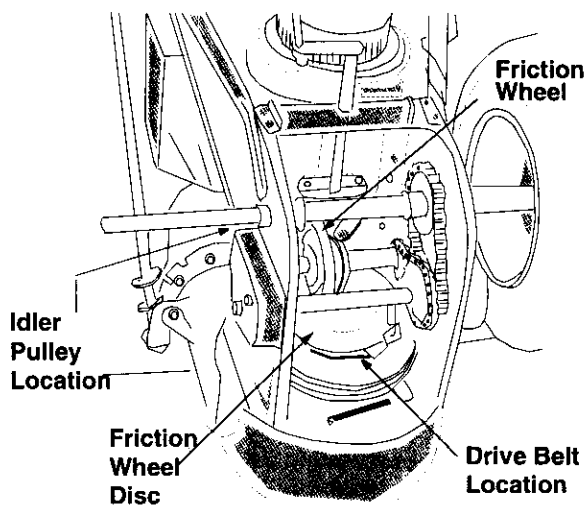

Figure 30
- With the traction drive clutch engaged, the friction wheel must contact the drive plate (shown in Figure 30).
- Working from the underside of the frame, slip belt between the friction wheel and the friction wheel disc. See Figure 30. You may have to twist the belt flat in order to slide it through the clearance between the friction wheel and the friction wheel disc. Remove the belt.